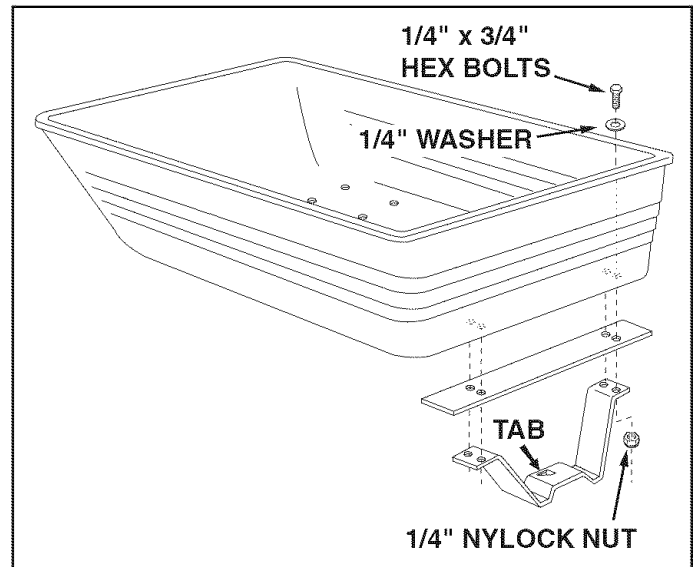

FIGURE 4
5. Assemble the latch stand plate and latch stand bracket (with alignment tab toward rear of cart) to the cart tray using four 1/4" x 3/4" hex bolts, 1/4" washers and 1/4" nylock nuts. **Tighten nuts after all bolts are in place.** See figure 4.